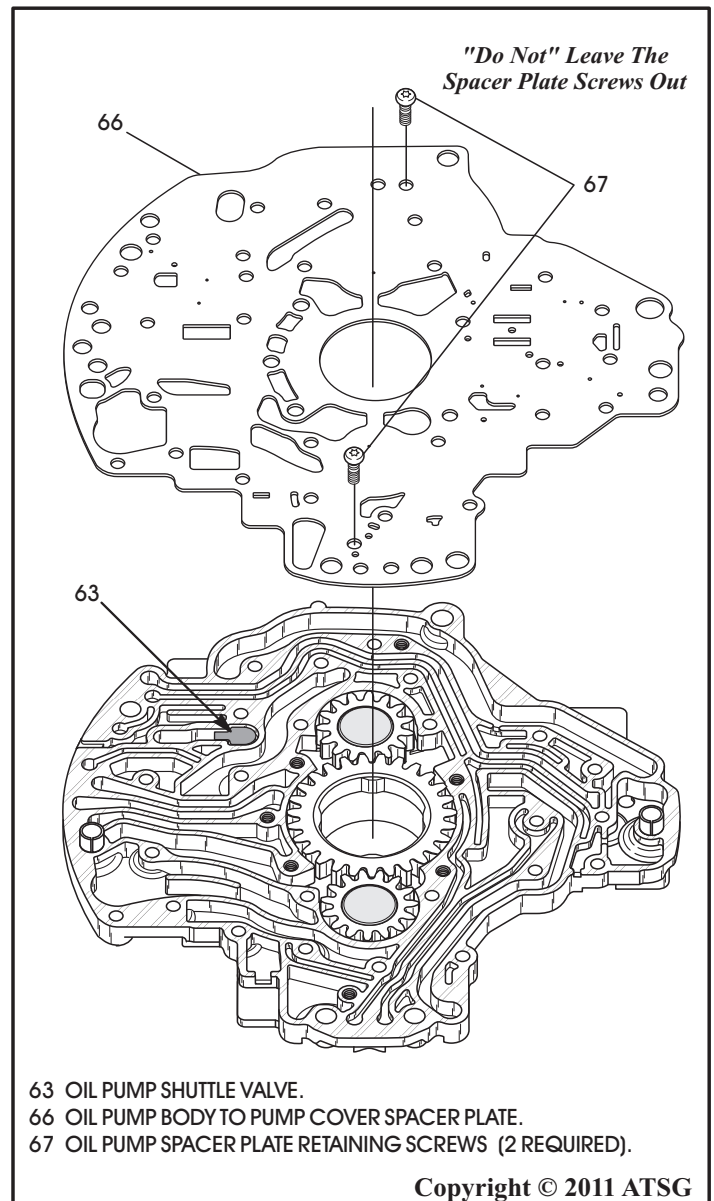

Figure 114
11. Ensure the shuttle valve is seated and install the oil pump spacer plate over the alignment dowels, as shown in Figure 114.
12. Install the two spacer plate retaining screws, as shown in Figure 114, and torque the screws to 4.5N·m (40 in.lb.).